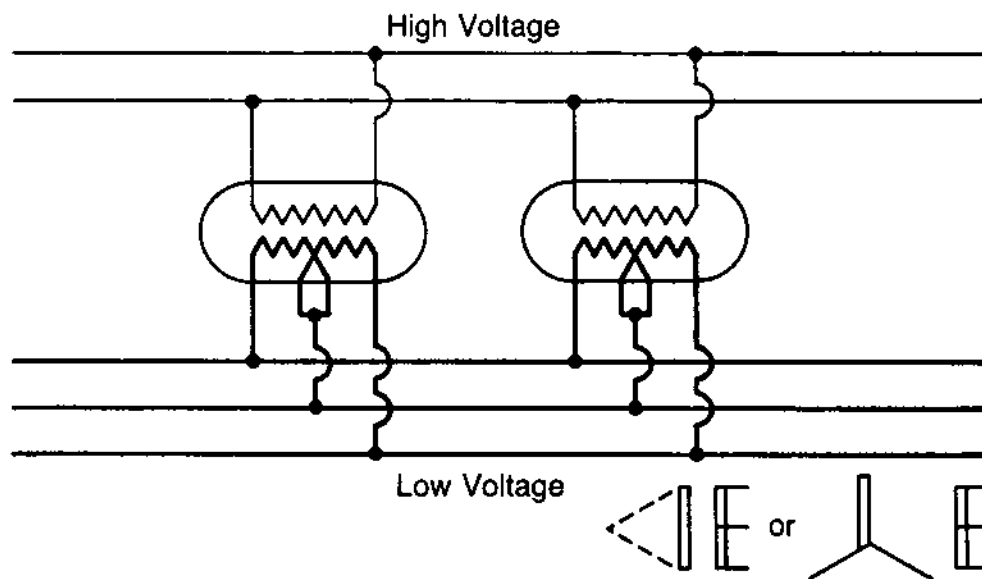

Fig. 26 – Parallel Operation of Two Single-Phase Transformers
b. *Single-phase parallel operation* of two single-phase units is shown in Figure 26. Parallel operation of transformers having the same high voltage and low voltage ratings can be used when it is necessary to increase the total bank capacity and a single unit of the proper size is not available. It is not economically efficient to use two transformers in parallel if a single unit can be used. The losses of two units in parallel are greater than the losses of a single unit of the same capacity.